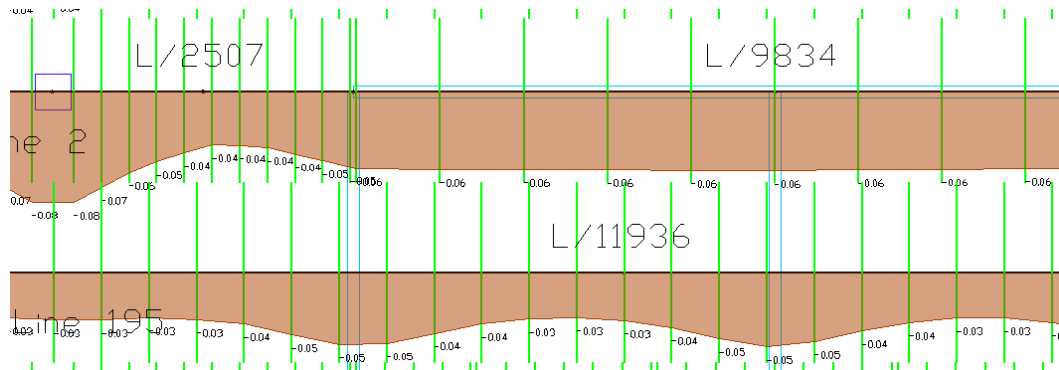

Figure 6.8-8 - Deflection Results Along Support Line
- From **Floor Design | Strip Results/Visibility | Display Graphically**, turn on the support lines in either direction, the program will report the deflection ratio (X/L) for each span as shown in **Figure 6.8-8**. Note also that the deflection value for